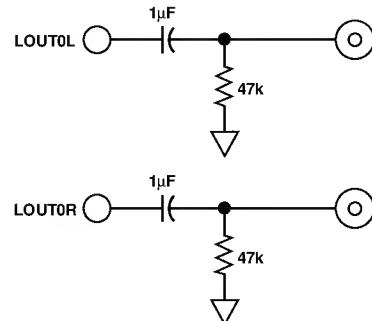

Figure 13. AD1849K Line Output Connections
Figure 13 shows ac-coupled line outputs. The resistors are used to center the output signals around analog ground. If dc-coupling is desired, CM OUT could be used with op amps as mentioned below.
- The AD 1849K was designed to require no external low-pass filters on analog outputs. As shown in Figure 13, the AD 1849K only requires ac coupling capacitors and resistors for line-level dc bias. In contrast, the CS4215 has a single-pole passive filter for its recommended line-level output circuit. Though overkill for the AD 1849K, this output circuit will work with the AD 1849K as well.